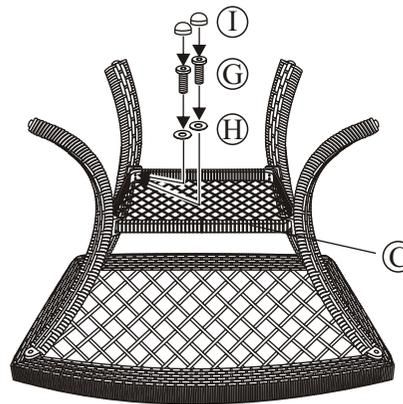

Figure 2
Step 3: Build the leg assembly. Attach the legs to the leg connector bracket by using the 1/4"x35 mm bolts as shown in **Figure 2**. Add a washer to each bolt. Guide these bolts through the holes in the leg connector bracket, and into the fixed nuts already in place in the legs. Do not over-tighten. Only 3-4 turns to ensure the leg stays in position. Repeat this procedure on the other three legs.